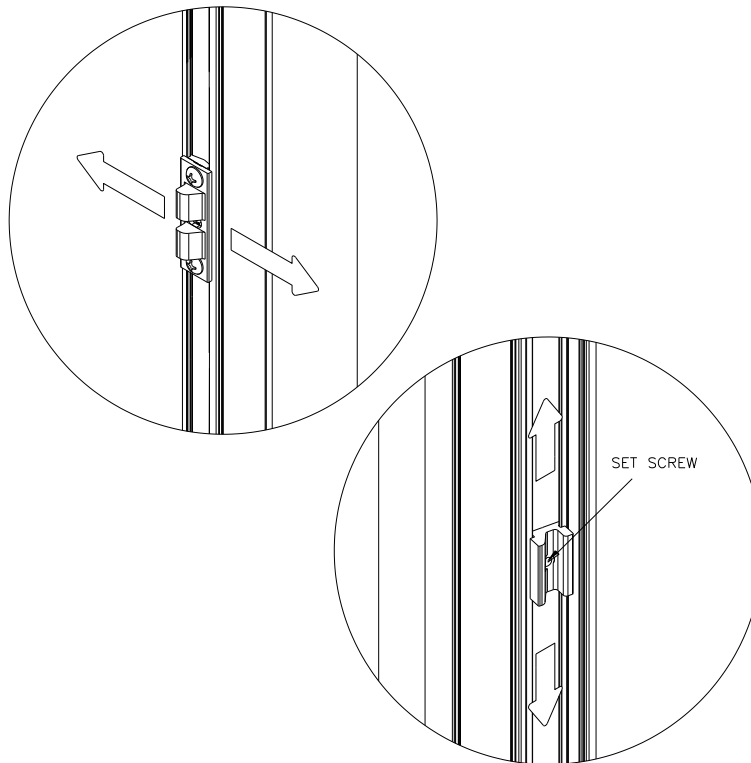

Figure 26
- If the door leaf does not close correctly, adjust the location of the blocks and the tighten the set screw. (Figure 26)